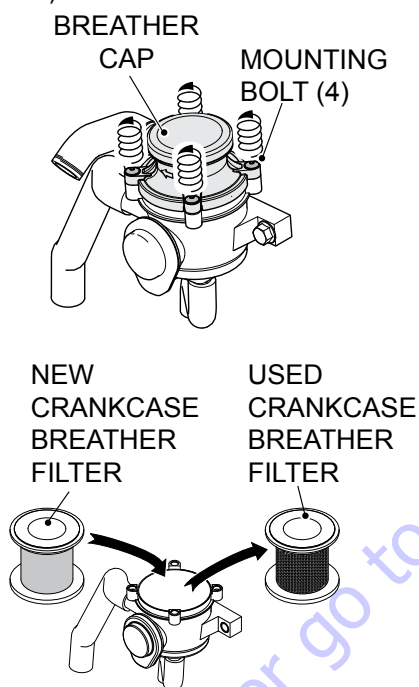

Figure 43. Replacing Crankcase Breather Filter
1. Release the four mounting bolts on the breather cap (Figure 43).